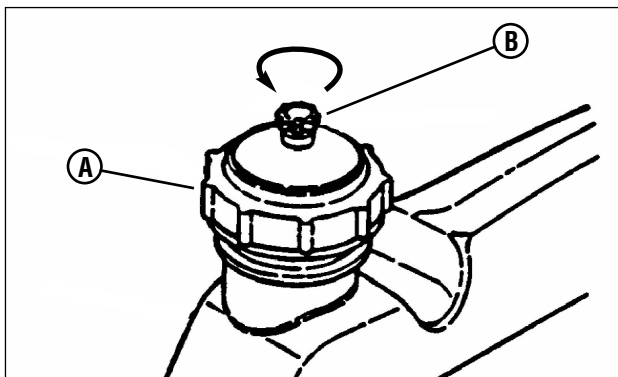

Figure 2: Fuel filler cap
8. Add fuel to the fuel tank after pushing the Rear Engine Rider outside where fumes can dissipate. Make sure the fuel filler cap (**A**, **Figure 2**) is tight, and the vent (**B**) is open after refueling. Refer to the engine manual for fuel specifications.
1. Open the vent (**B, Figure 2**) on the fuel filler cap (**A**) by turning counterclockwise.
1. Open the vent (B, Figure 2) on the fuel filler cap (A) by turning counterclockwise.